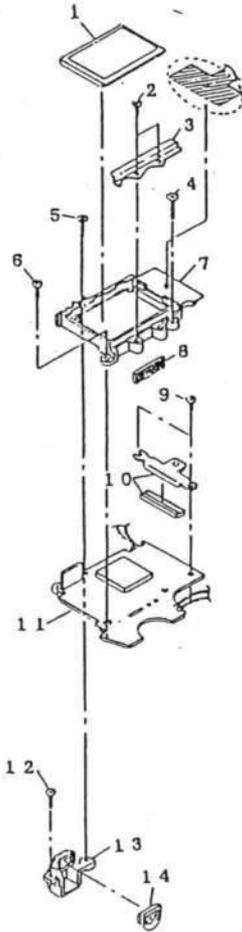

Fig.4
4. LCD (Fig.4)
- (1) Take off two SCREWS (No.2) and remove the LCD HOLDER (No.3), then remove the LCD (No.1).
5. CPU PCB (Fig.4,5)